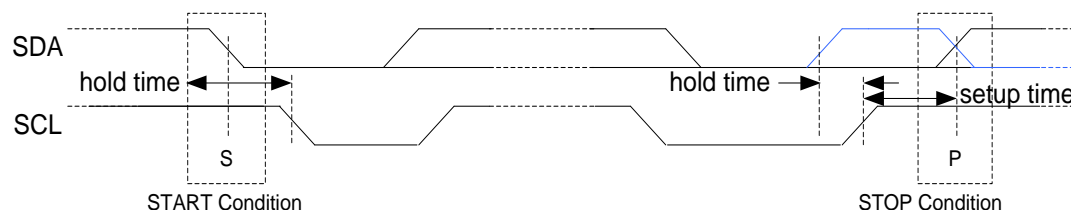

Figure 20. START and STOP (or repeated START, blue line) condition
An idle I²C bus state occurs when both SCL and SDA are not being driven by any master and are therefore in a logic HI state due to the pull up resistors. Every transaction begins with a START (S) signal and ends with a STOP (P) signal. A START condition is defined by a high to low transition on the SDA while SCL is high. A STOP condition is defined by a low to high transition on the SDA while SCL is high. START and STOP conditions are always generated by the master. This slave module also supports repeated START (Sr) condition which is same as START condition instead of STOP condition (the blue-color line shows repeated START in Figure 20).